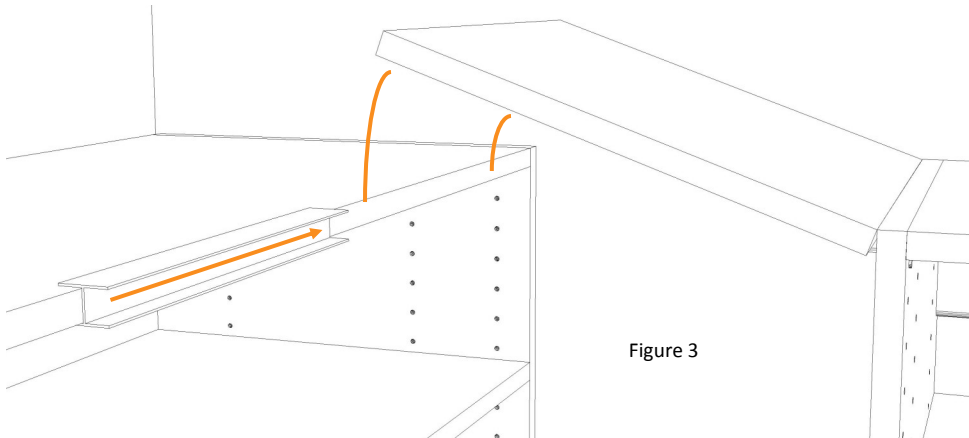

Figure 3
7d. Place the correct size shelf over the (4) EQ clips and pull down firmly as show in figure 3.
8c. Repeat steps 8a-8b for each Back Panel until all Back Panels are in place as show in figure 3.
9c. Repeat step 9b until all wedgerail covers are attached as shown in figure 3.
11b. Repeat for each section till all shelves are in unit as shown in figure 3.
12c. Place the Bridge Shelf on the EQ Clips and slide over the H-Rail joining the two shelves into one "L" shelf as shown in figure 3.
14a. Hanging Rods have two parts the Rod and the Rod Ends. First install the Rod Ends into desired hole location as shown in figure 3.
***This step is for Soft Close Slides only.** 15c. Prepare 2nd part of slide for installation on Partition. Remove the Plastic part at the back of slide using a flat tool like a flat head screw driver to have access to back hole as shown in figure 3. Do Step 15d. Then replace plastic part to back of slide.
18a. Using a sharp 3/16" drill bit, **carefully** drill through the same holes drilled in step 16 in face through drawer box as shown in figure 3.